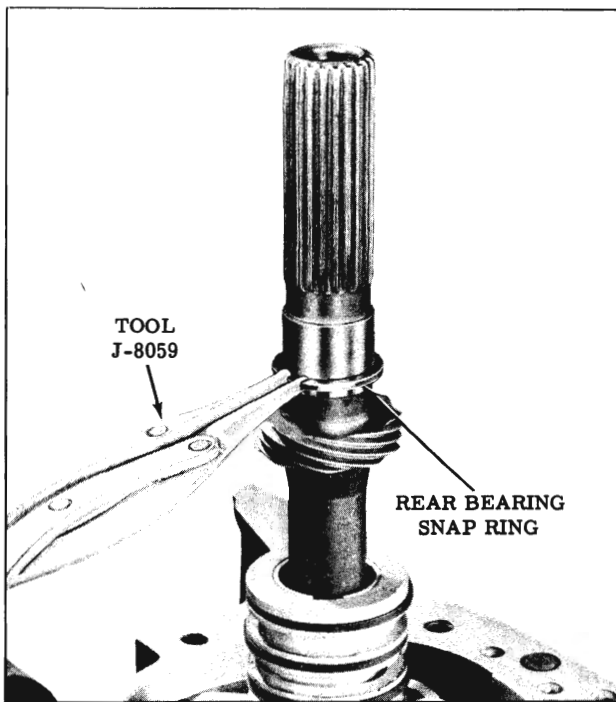

Fig. 3-305 Rear Bearing Snap Ring
- 28. Install the rear bearing to output shaft snap ring. (Fig. 3-305)